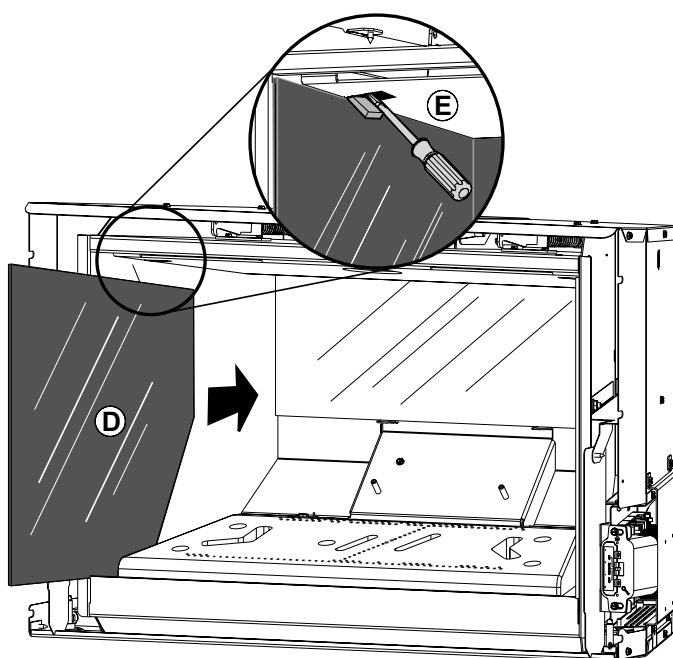

Fig. 7.16
3. Slide each Side Panel (D) into position flat against the firebox side, resting the bottom edge on the support shelf, fig. 7.16. Push each side panel back against the rear panel.